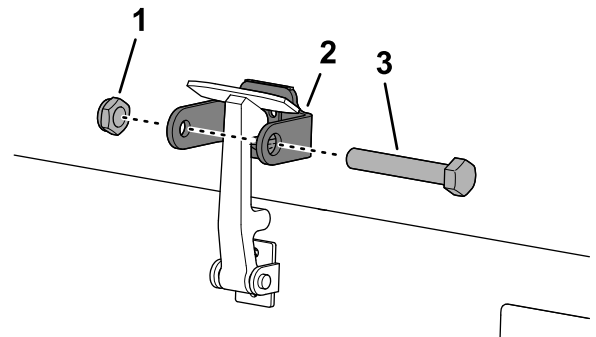

Figure 20
7. Screw the bolt into the other arm of hood-lock bracket to lock the latch in position (Figure 20).